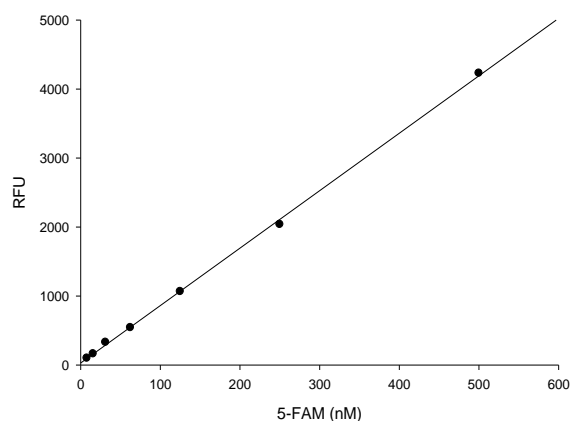

Figure 3. 5-FAM reference standard
- Plot 5-FAM fluorescent reference standard as RFU (relative fluorescent unit) versus concentration as **Figure 3**.